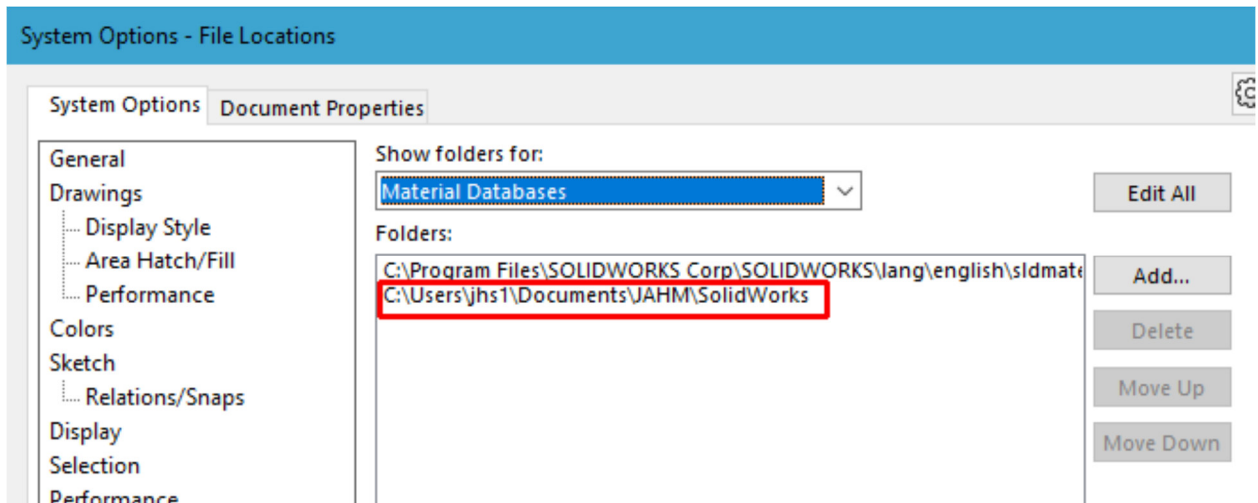

Figure 5.
- f) You should now see your directory with your material.xml files listed (Figure 5.)